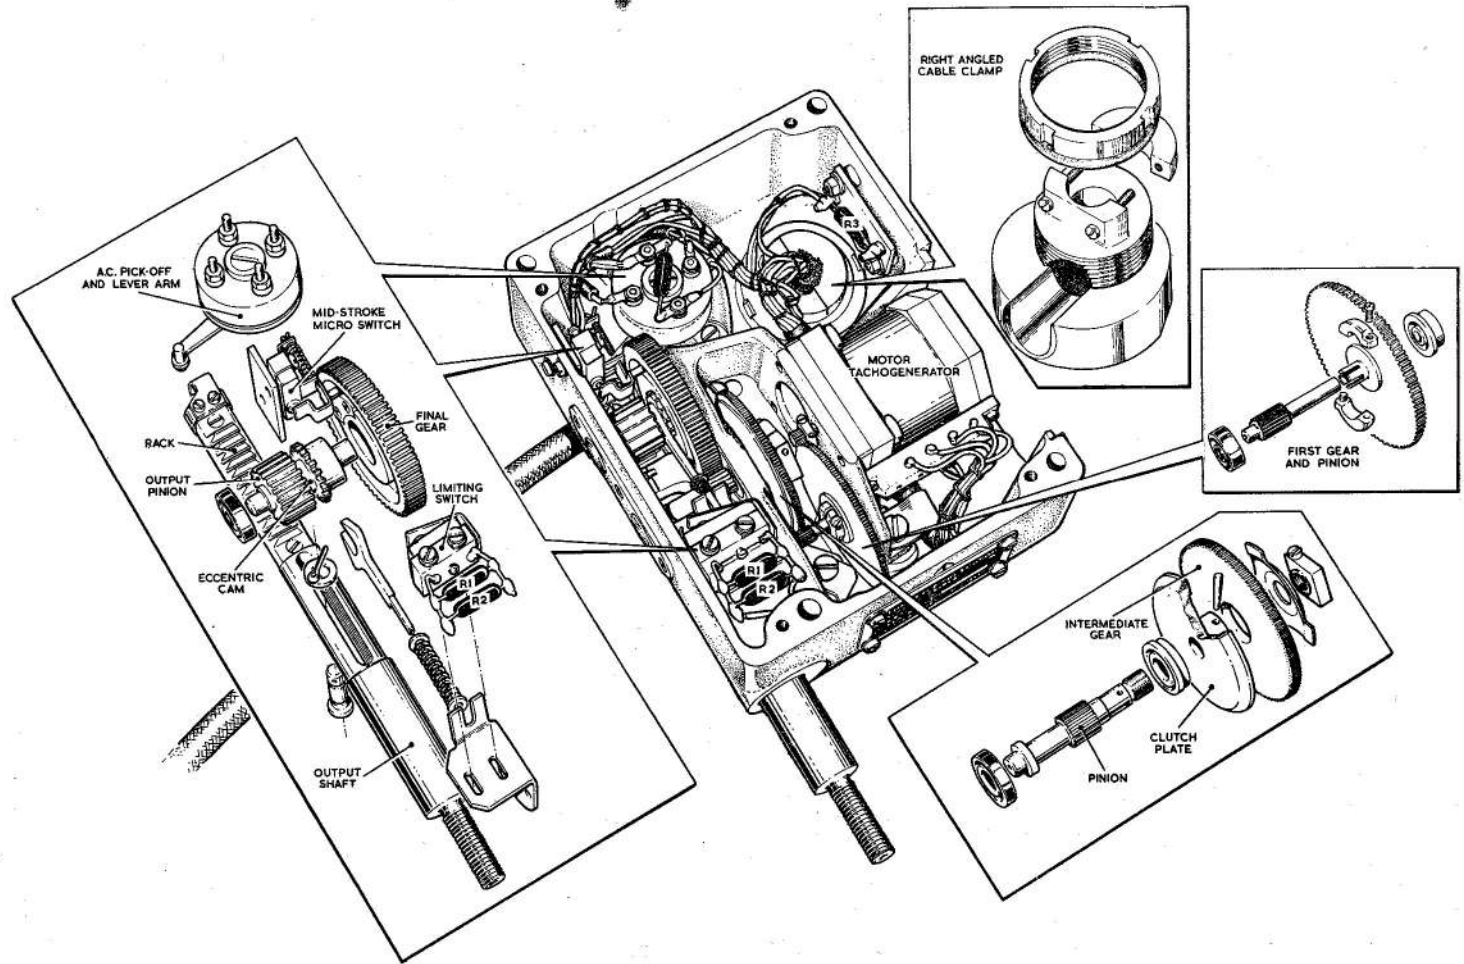

Fig. 2. Actuator—exploded view
4. The throttle actuator (fig. 2) consists of an a.c. motor-tachogenerator, a reduction gear train with a rack and pinion output stage and an a.c. pick-off. The rack is fixed to the output shaft which has a maximum movement of 1.00 ± 0.01 in. The a.c. pick-off is coupled to the output shaft by a lever.
6. The motor drive is transmitted through a 764 : 1 reduction gear train (fig. 2) to the actuator output shaft. A slipping clutch is included in the gear train to prevent motor inertia from damaging the gears in the event of an output overload. To save excessive wear on the overload clutch a protection circuit is included which stalls the motor when the actuator shaft reaches its full travel limit.
7. The components are housed in a cast light alloy case (fig. 2) which has an open top and a cut-out on one side. A light alloy dust cover which fits over the case top and cut-out is secured by six counter-sunk screws. The unit has three fixing holes which pass through the case and cover.